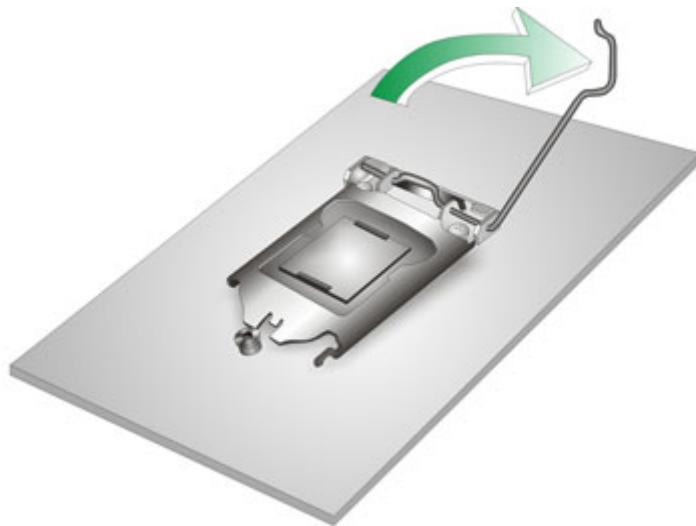

Figure 3-7: Disengage the CPU Socket Load Lever
Step 2: Disengage the load lever by pressing the lever down and slightly outward to clear the retention tab. Fully open the lever. See **Figure 3-7**.